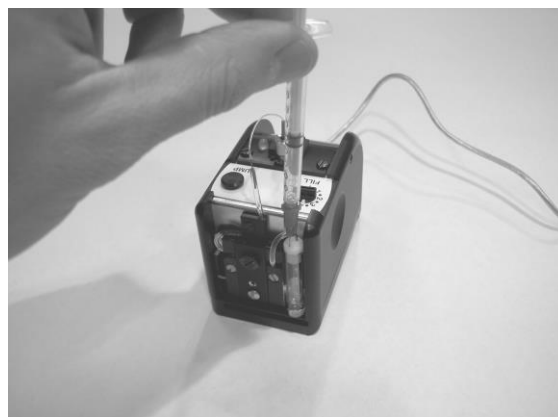

Fig. 5.3 Filling the Liquid Container
- c) Insert the RED dispensing tip into the air hole to fill the container. Check top of liquid container to see when liquid container is full (Figure 5.3).